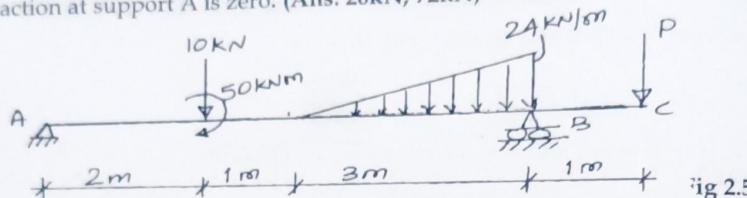

Fig 2.57
- 1) Find analytically the support reaction at B and load P for the beam shown in fig 2.57 if the reaction at support A is zero. (Ans: 26kN, 72kN)